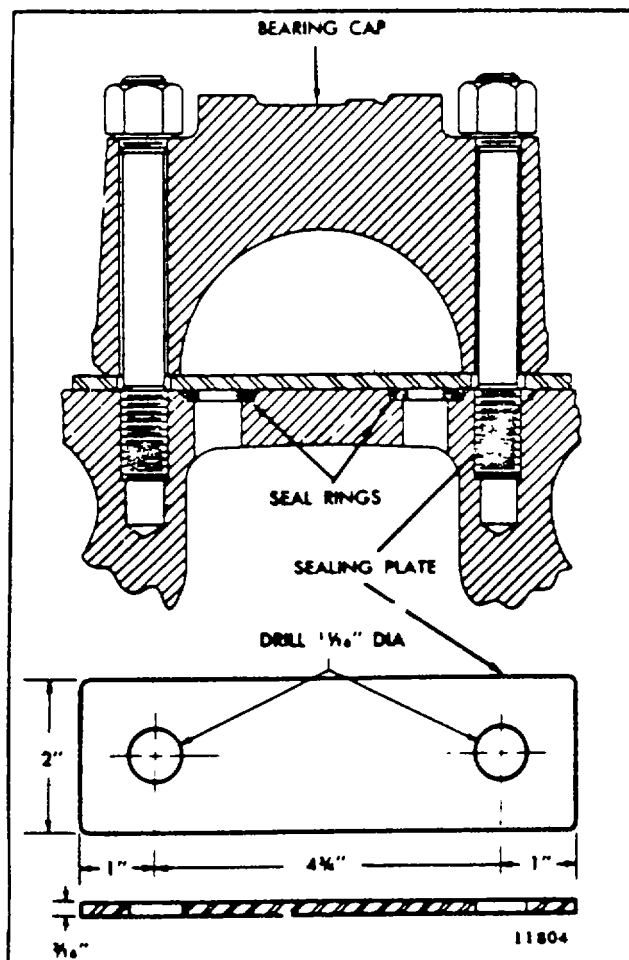

Figure 4-51. Sealing Plate Details for Pressure Testing Cylinder Block.
- (1) Seal water openings in top of block with metal plates made according to figure 4-51.
- (2) Use main bearing caps to secure plates to block with cylinder head bolts or studs and nuts. Use cylinder head seal rings as gaskets between plates and block.
- (3) Use water hole cover plates and gaskets to cover water pump inlet openings.
- (4) Drill and tap one cover plate to provide a connection for an air line.